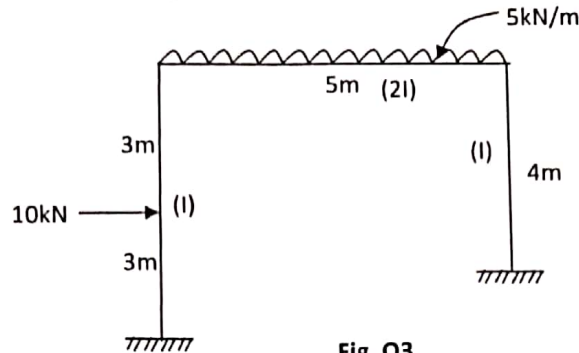

Fig. Q3
3. Analyze the portal frame shown in Fig. Q3 using moment distribution method. Draw BMD